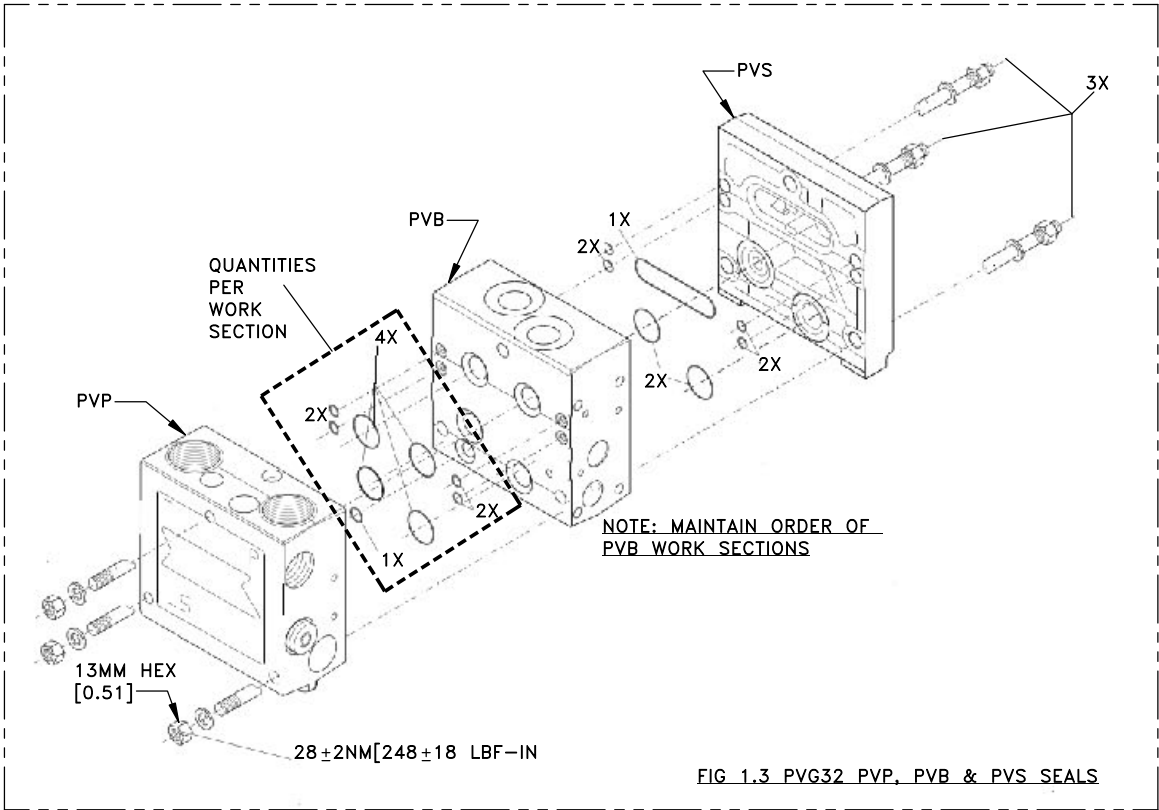

FIG 1.3 PVG32 PVP, PVB & PVS SEALS
19. REMOVE THE PVP ASSEMBLY (SEE FIG. 1.3).